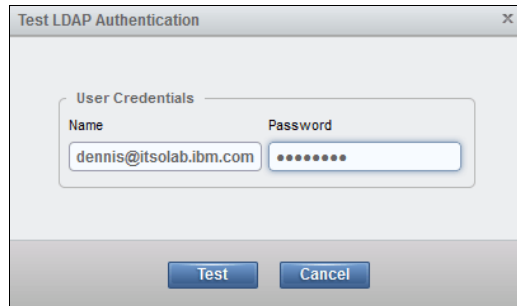

Figure 9-52 Remote Authentication: Test LDAP Authentication
3. The next window opens (Figure 9-52). Type the user credentials of the LDAP user for whom you want to test authentication and click **Test**.